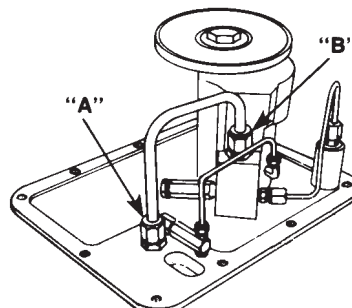

FIGURE 4
15. Reinstall the $\frac{3}{8}$ " tube assembly. Check to ensure that fittings "A" and "B" shown in Figure 4 are secure.